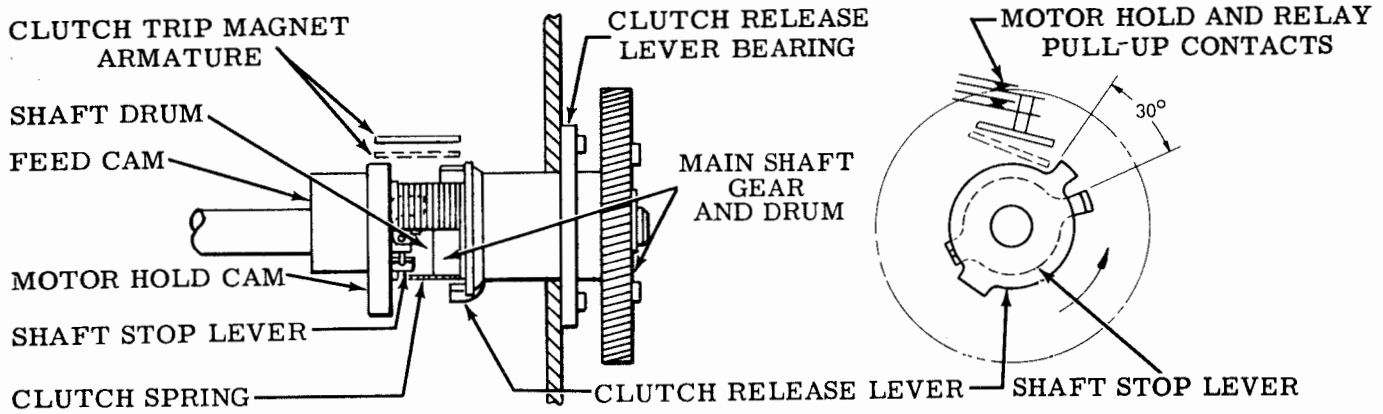

Figure 7 - Spring Clutch
2.09 The main shaft is separated from the drive gear and clutch sleeve assembly by the spring clutch. See Figure 7. If the trip magnet armature is in the up or run position, the spring clutch engages the rotating clutch sleeve with the main shaft drum. When the armature falls into the stop position, the clutch release lever is engaged first, releasing the clutch, and approximately 30 degrees later, the shaft stop lever is engaged to stop the main shaft in a predetermined position.